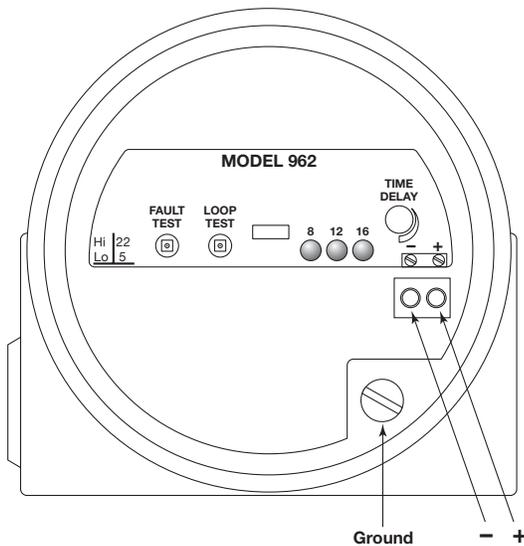

Figure 11
4. Refer to Figure 11. Connect wires to terminals (+) and (-) on the terminal block. Unshielded cable may be used. If shielded cable is used, attach shield to green head screw.